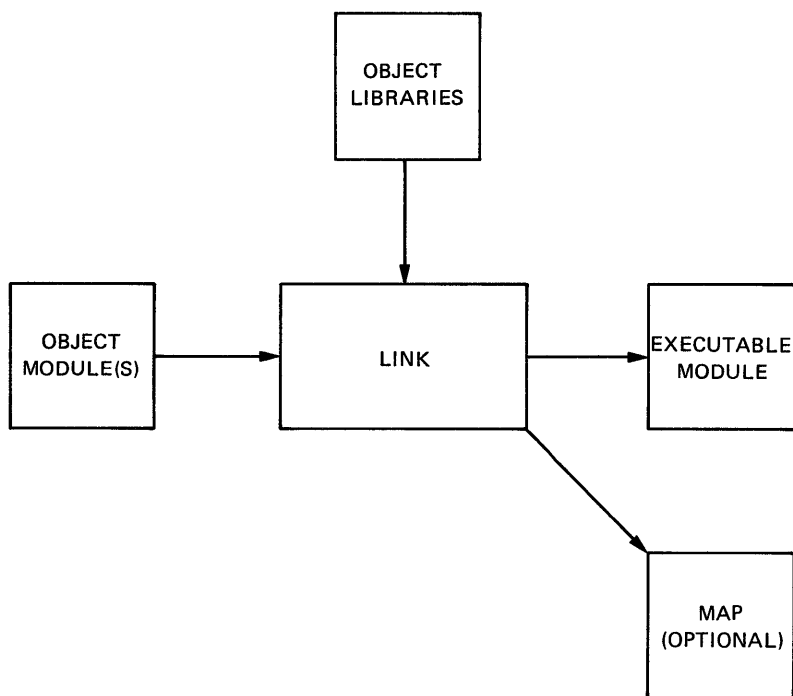

Figure 1-3 Link Functions
- Produces an executable image and an optional map, as shown in Figure 1-3